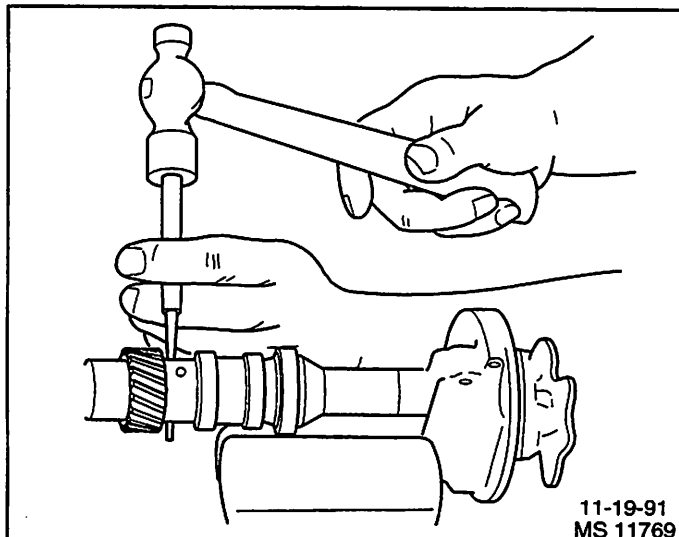

Figure 4-8 - Removing the Roll Pin
- Any time the distributor is disassembled, the retainer (5) must be replaced. Do not attempt to reuse the old retainer.
1. Screws (1) and washers holding the cap to the housing.
2. Cap (2) from the housing.
3. Rotor (3) from the shaft by lifting or prying straight up.
4. Roll pin (15) from the shaft (4).
- Drive out the roll pin with a small punch (Figure 4-8).
5. Drive gear (14), washer or spring (13) and spring retainer or tang washer (12).
6. Shaft (4) with pole piece (8) and plate from the housing (11).
7. Retainer (5) from the housing (11).